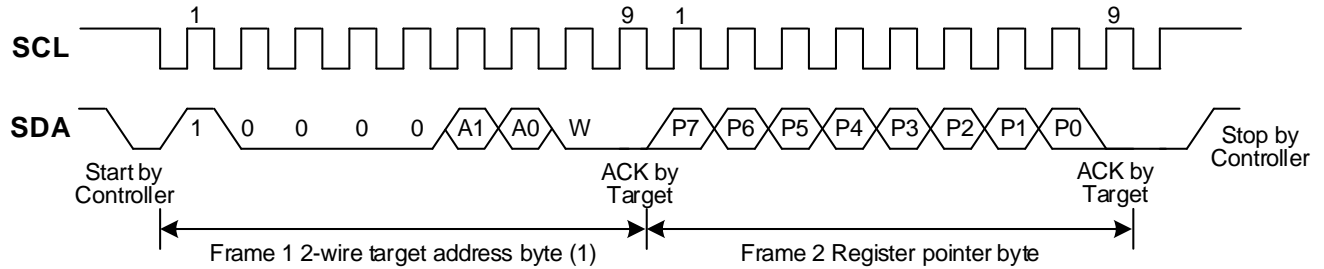

Figure 7. Typical Register Pointer Set
To retrieve a specific SQ52210 register data, the user must write the corresponding value to the register pointer. Table 2 lists all registers along with their respective addresses. Figure 7 illustrates the register pointer value, which is the first byte transmitted after the target address byte with the R/W bit set low. Every write operation to the SQ52210 requires a register pointer value.
- Note 2. The data is being read from the last register pointer location. If reading a different register is desired, the register pointer must be updated first. See Figure 7